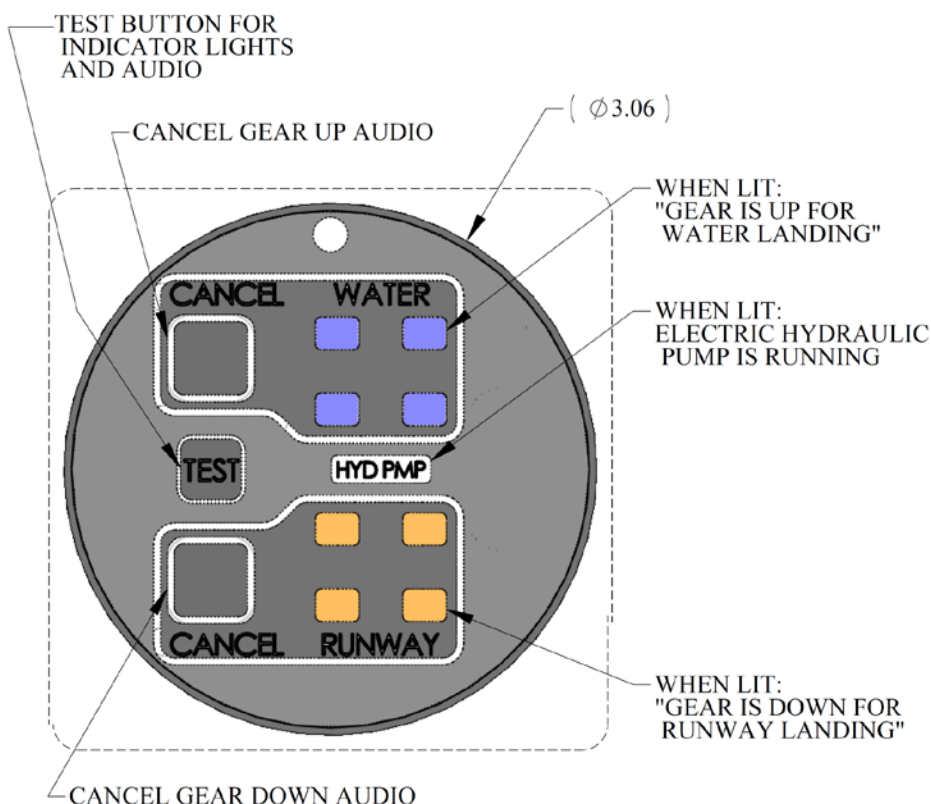

Figure 2.1.1
2.2 Audio Reference Figure 2.1.1